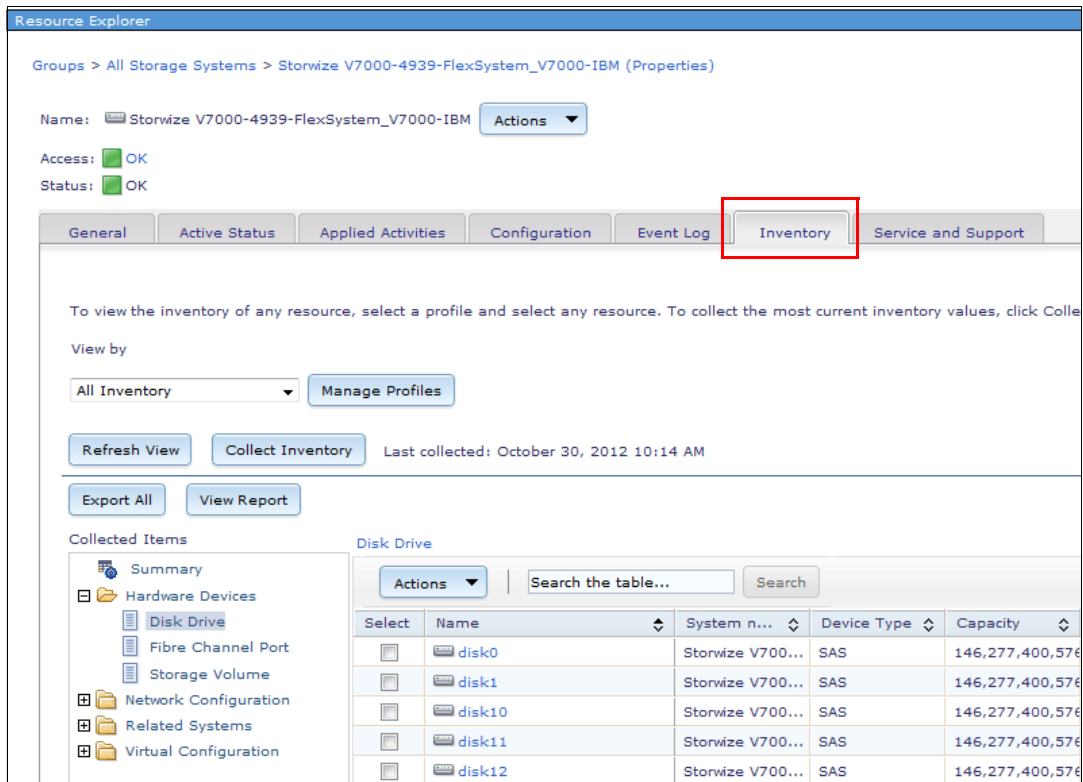

Figure 3-93 Inventory of Storage
5. Select the tab Inventory to collect the inventory, as shown in Figure 3-93.